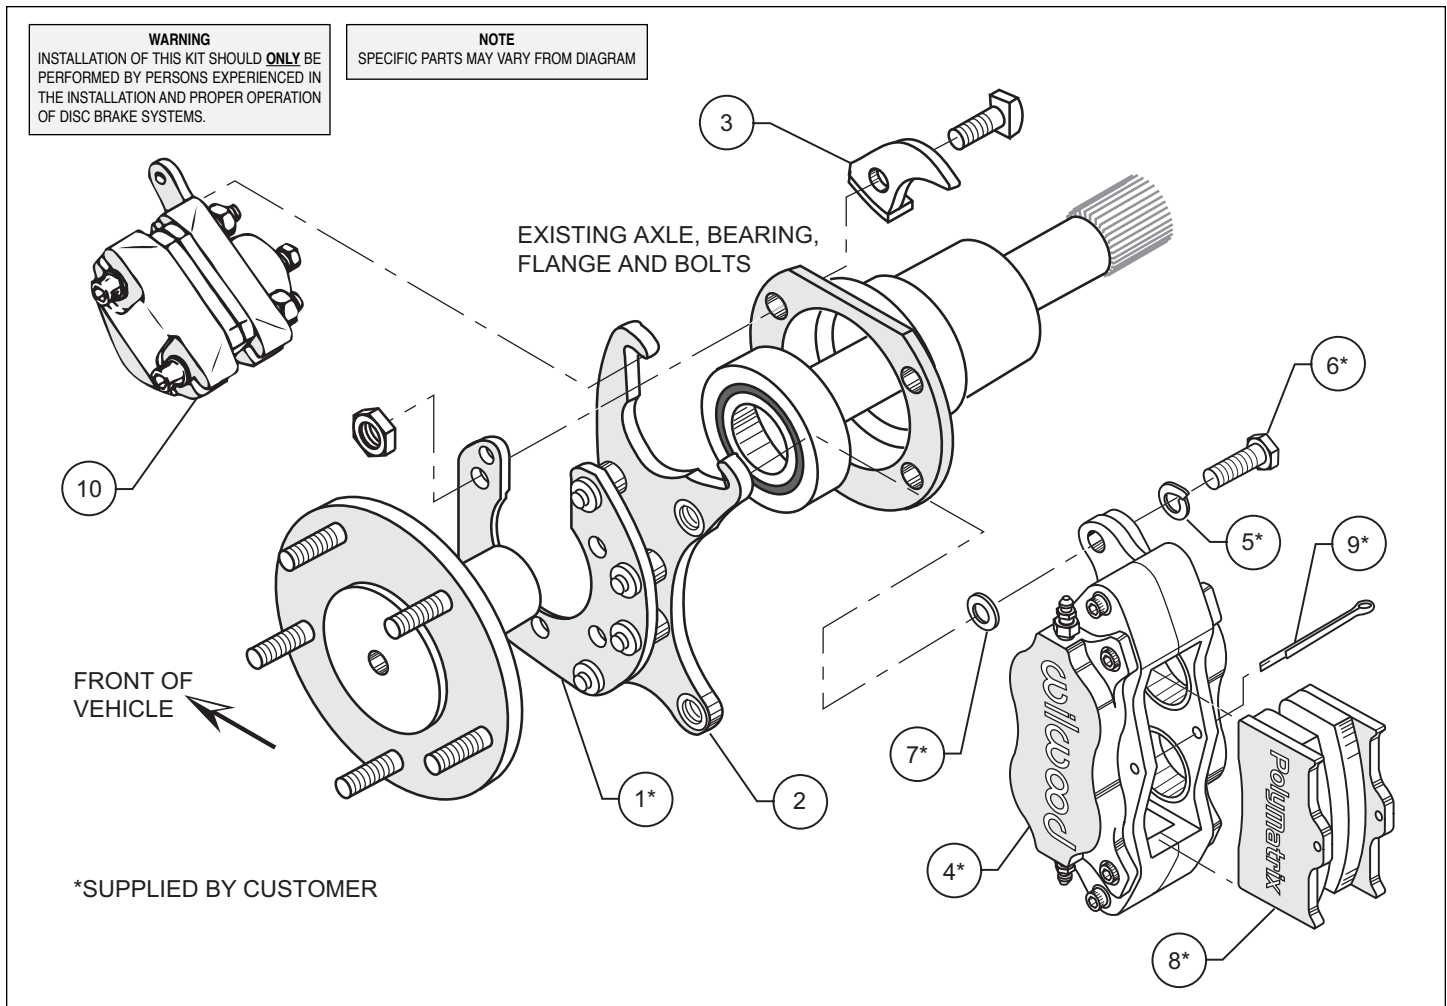

Figure 1. Typical Installation Configuration
•Verify that the existing kit on the vehicle is manufactured by Wilwood. Locate the part number stamped on the back of the caliper bracket. Wilwood brackets are always prefixed with the number 249 or 250. If it does not begin with a 249/250 number, it is not a Wilwood bracket and the adapter bracket supplied in this kit will not fit. Contact the retailer/chassis builder where this kit was purchased to order the entire bracket assembly as pictured in Figure 1, above.